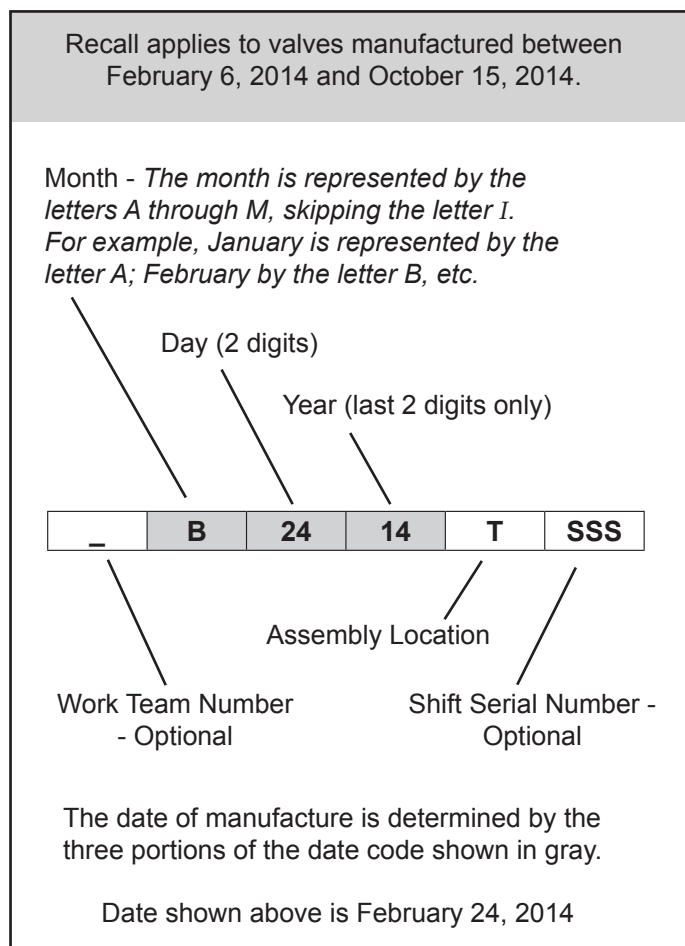

Figure 2 **Bendix Product Date Code Interpretation**
7. Verify the valve part number is 101450 and the date of manufacture is within the recall time period. *Refer to Figure 2 for the date code interpretation.*